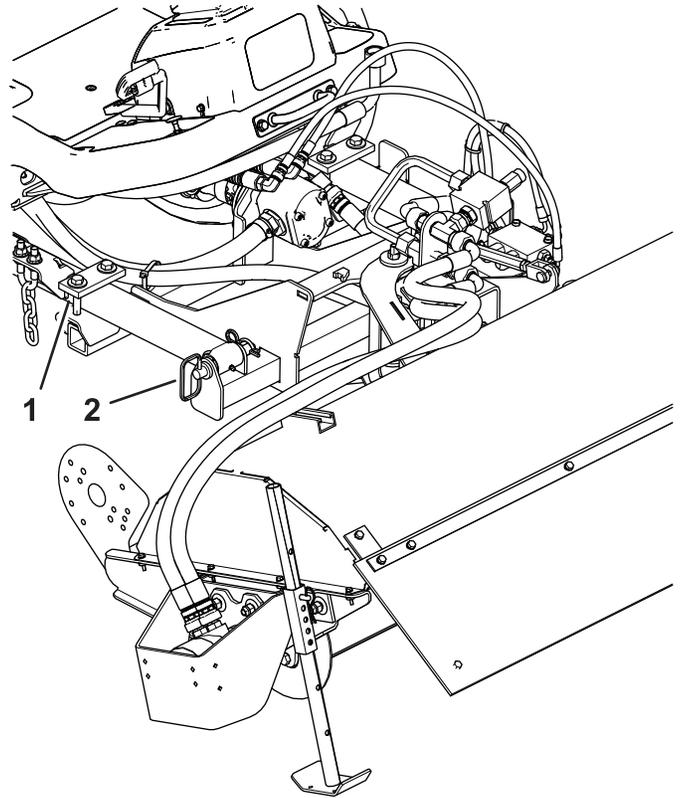

Figure 11
2. Remove the pins and the brackets from the broom frame (Figure 11).
4. Install the pins into the broom frame and lift arms (Figure 11).